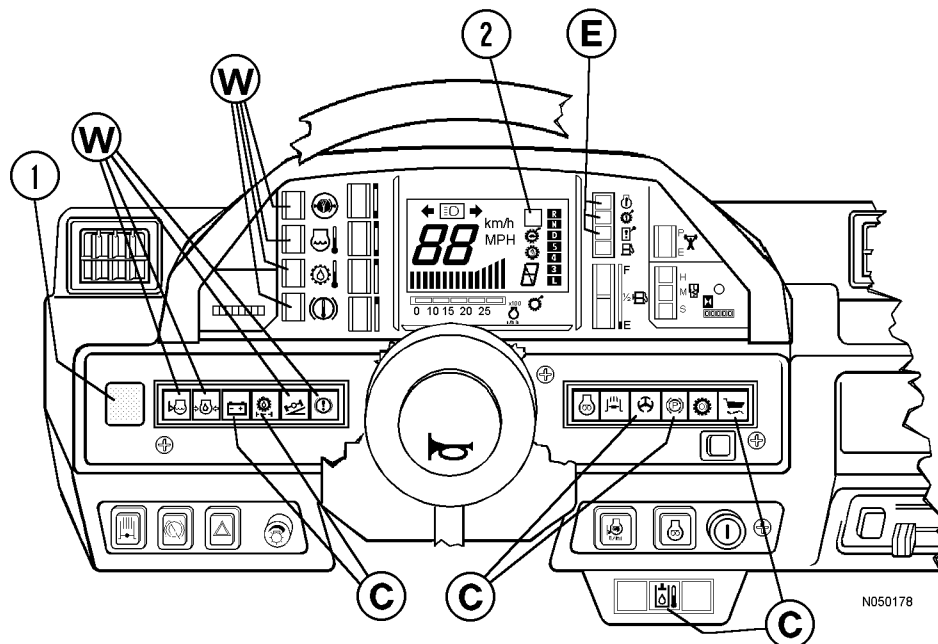

FIGURE 32-5. WARNING AND CAUTION LAMPS
1. The **Central Warning Lamp** is a red lamp that will flash whenever any of the monitor lamps (“W”, or “C”, Figure 32-5) are illuminated, or if the parking brake is applied and the transmission shift lever is not in the N, (NEUTRAL) position. (Refer also to 54, Figure 32-8, later in this Section.)